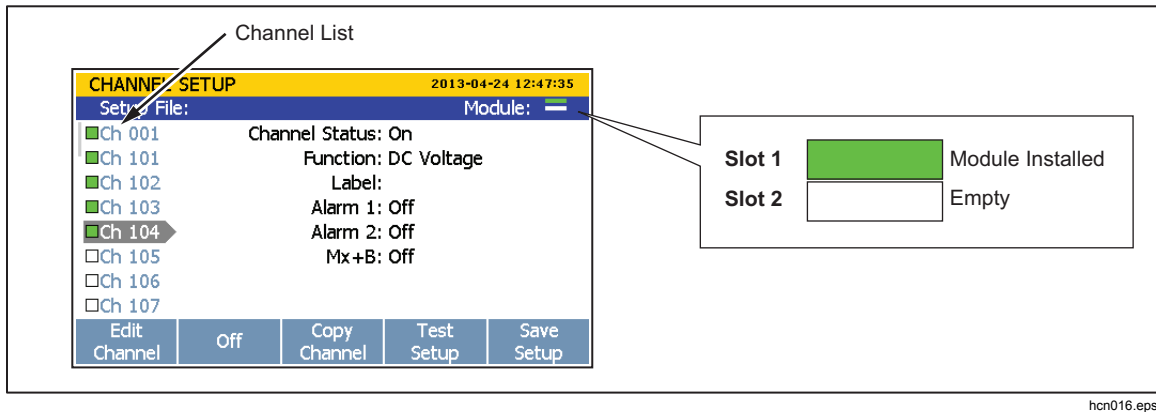

Figure 2-5. Module Indicator Example
4. Verify that the module indicator appears green on the main screen (see Figure 2-5).
10. Verify that the module indicator appears green on the main screen (see Figure 2-5).